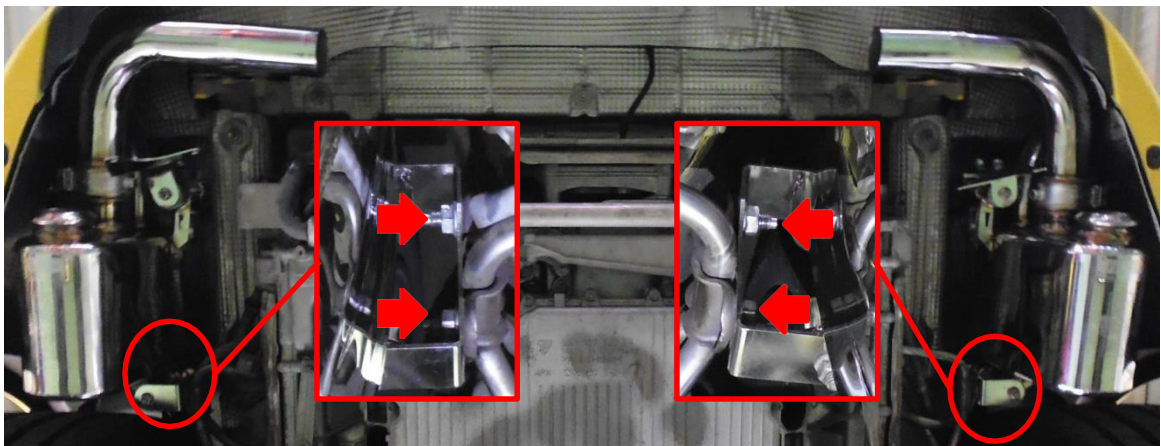

Fig 2-2
2. Use 13mm wrench to lock the left and right muffler fixed rack. (Fig2-2)